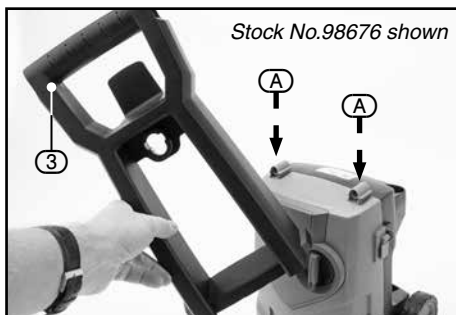
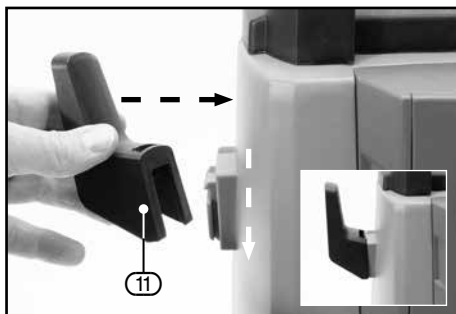

FIG.1
FIG.3
8.1 FITTING THE TRANSPORT HANDLE SECTION – FIGS.1 – 2
- Slide the transport handle section (3) over the mounting points (A) at the top of the main body of the pressure washer.
- From the back of the pressure washer, locate the 2 supplied screws (21) with the holes in the mounting points and screw in to secure the handle section in place
8.2 FITTING THE LANCE HOLDER AND CABLE HOOK – FIGS.3 – 4